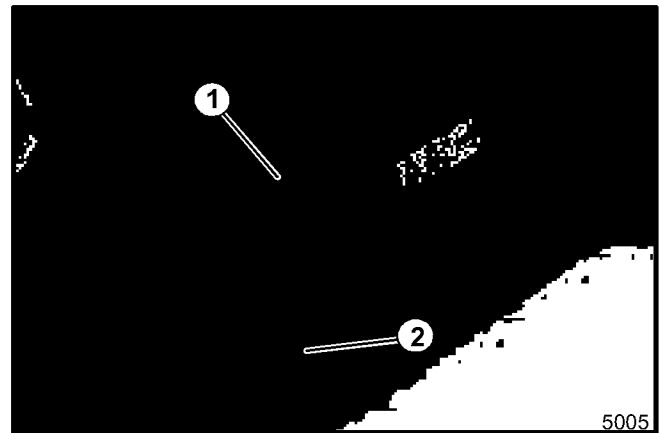

Figure 2. Attach Handle To Frame
3. Attach the handle to the mounting tabs on the frame using two, 1/2-13 x 1 screws and lockwashers (see figure 2).
4. Mount the side braces to the handle using two, 3/8-16 x 1 flangelock screws, and flangelock nuts. Secure braces to frame using two, 3/8-16 x 1 flangelock screws (see figure 2).